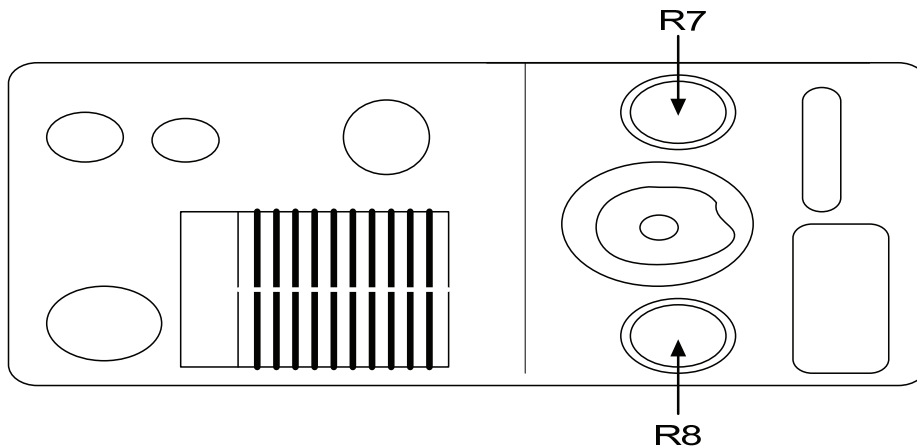

Figure 1. Frequency adjustment locations.
- (1) Set range function control to **4000-25000**.
- (2) Adjust **RPM** control to **21600**.
- (3) Adjust **HIGH CAL** trimmer (screwdriver control on front panel) for 2.78 ms indication on frequency counter.
- (4) Adjust **RPM** control to **5400**.
- (5) Adjust **LOW CAL** trimmer (screwdriver control on front panel) for 11.11 ms indication on frequency counter.
- (6) Repeat (2) through (5) above to compensate for interaction of adjustments.
- (7) Set range function control to **670-4170** and adjust **RPM** control to **3600**.
- (8) Adjust R7 (fig. 1) for 16.66 ms indication on frequency counter (R).
- (9) Adjust **RPM** control to **900**. If frequency counter does not indicate between 66.00 and 67.340, repeat (1) through (8) above.
- (10) Set range function control to **110-690** and adjust **RPM** control to **600**.
- (11) Adjust R8 (fig. 1) for 100.0 ms indication on frequency counter (R).
- (12) Adjust **RPM** control to **150**. If frequency counter does not indicate between 396.03 and 404 ms, repeat (1) through (6), (10), and (11) above.
- (13) Repeat **a** above.